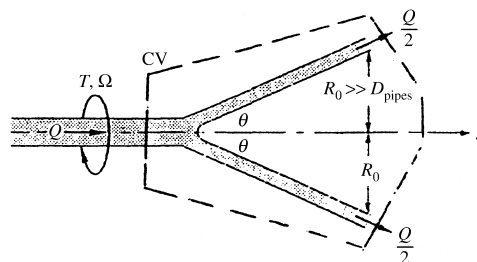

Fig. P3.112
**3.112** The wye joint in Fig. P3.112 splits the pipe flow into equal amounts  $Q/2$ , which exit, as shown, a distance  $R_o$  from the axis. Neglect gravity and friction. Find an expression for the torque  $T$  about the  $x$  axis required to keep the system rotating at angular velocity  $\Omega$ .